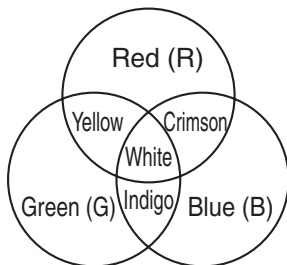

Figure 2-210
It expresses color by the mixed ratios of the three basic colors of light, red (R), green (G), and blue (B). (See Figure 2-210.)